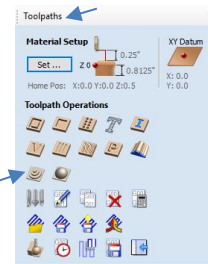

Fig. 2
2. Open the Toolpath tab (Fig. 2), click on the 3D Roughing Toolpath Icon if required. There are times when you do not need to use a Roughing Toolpath.